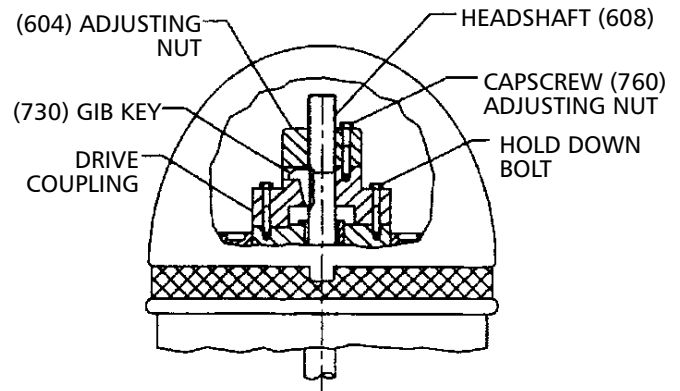
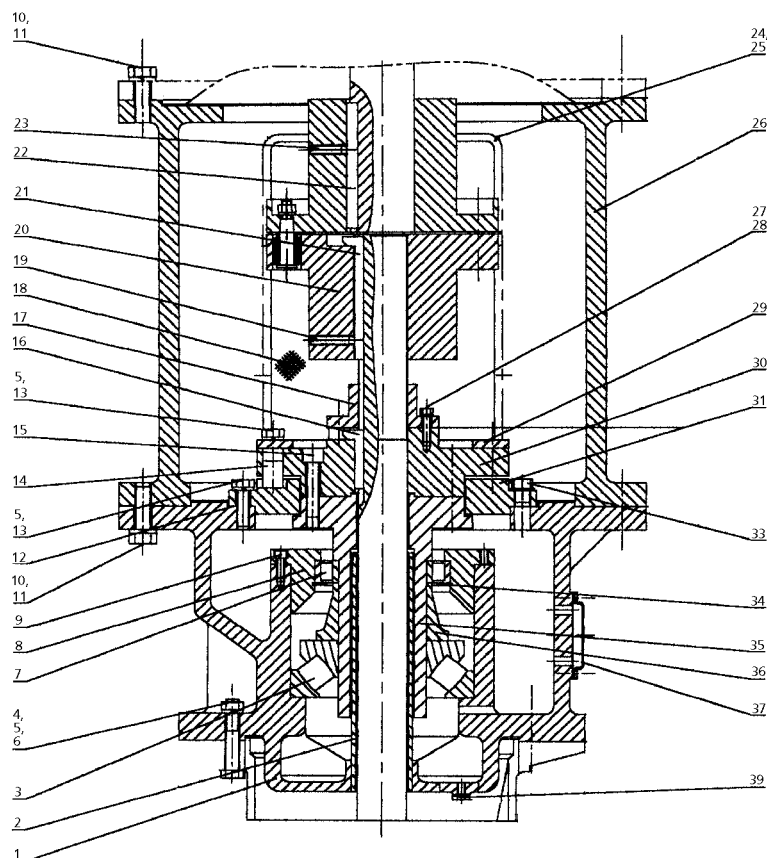

Figure 12
Figure 19 – Oil Lubricated Thrust Pot
1. The driving mechanism of all hollow shaft driver is shown on Figure 12. The head shaft (608) extends up through the quill or hollow shaft of the driver and is held in place by an adjusting nut (604), which not only carries all the static and hydraulic thrust of the impellers and shaft, but also provides the adjustment for the impeller clearances. The head shaft is connected to top shaft (or stub shaft) by a threaded coupling or a rigid flange coupling.
6. After lowering and orienting the driver as explained above, remove the drive coupling and the hold down bolts (See Figure 12). **Be sure to mark the location of the coupling before removing it.**
If the unit is supplied with a thrust pot (see Figure 19), the thrust pot should be installed on top of the discharge head or motor stand before installing the driver. The driving mechanism of the thrust pot assembly is similar to the hollow shaft motor. (See Figure 12)
OIL LUBRICATED THRUST POT (SEE FIGURE 19)